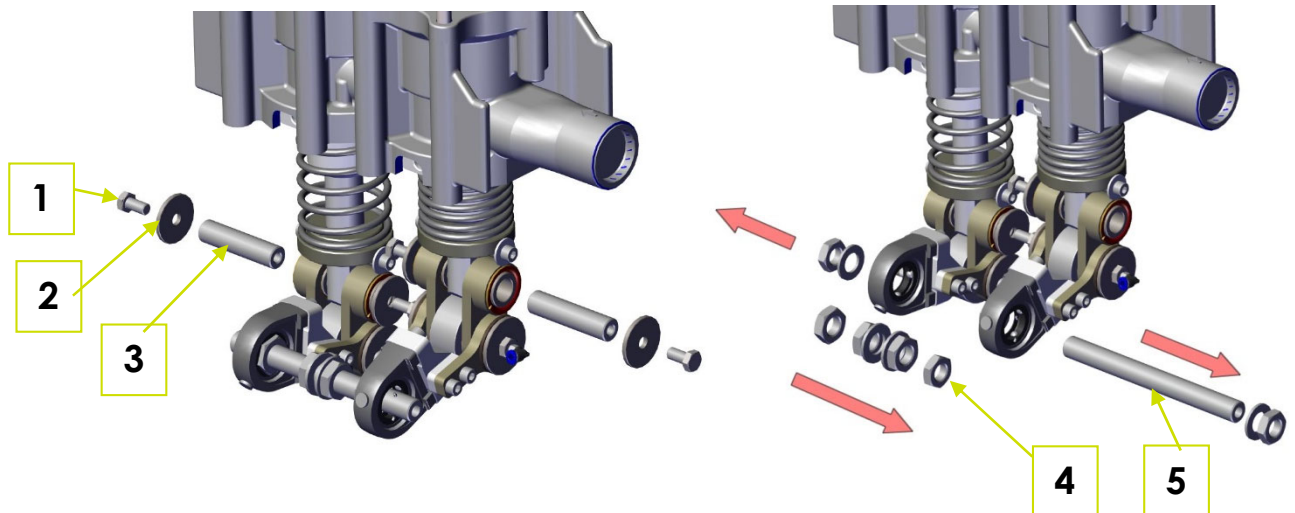

Fig. 7-6: Dismounting the two-joint rockers
1. For each rocker, unscrew one hexagon screw M10x20 (1) (Fig. 7-6: Dismounting the two-joint rockers).
2. Remove the thrust washers (2).
3. Pull out both axles (3).
4. Unscrew all hexagon nuts M20x1.5 (4) from the shear axle (5) and take it out in the direction of the arrow.